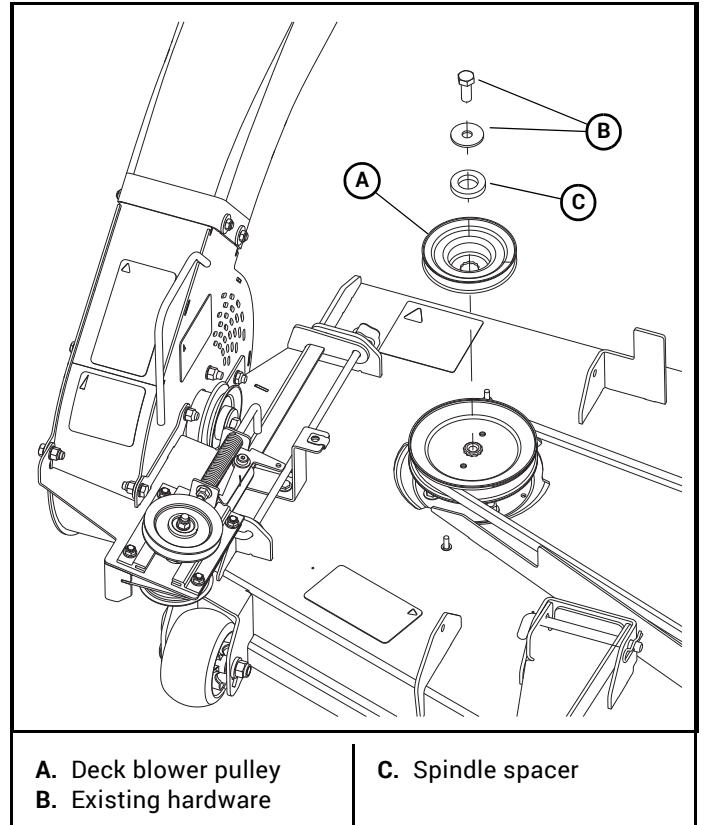

Figure 3-24
32. Install the deck blower pulley. Use the 4.5" pulley for the 60" deck. Use the 3.5" pulley for the 54" and 48" decks. **NOTE:** The provided spindle spacer is used on 48" and 54" decks only, use the existing spindle spacer on the 60" deck. Torque the bolt to 65–75 ft.-lbs. Figure 3-24